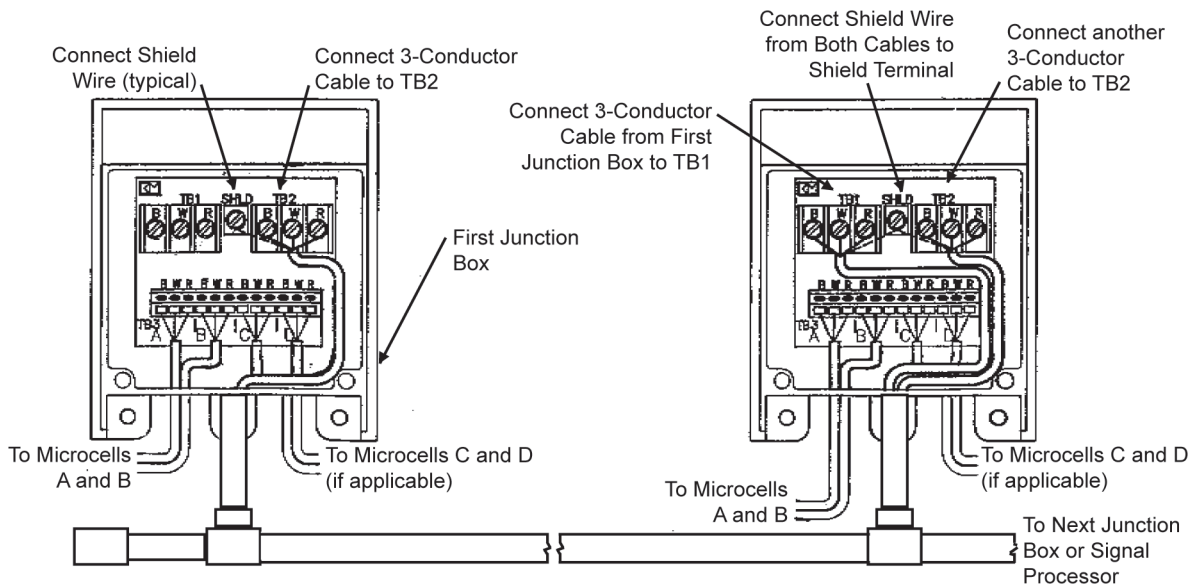
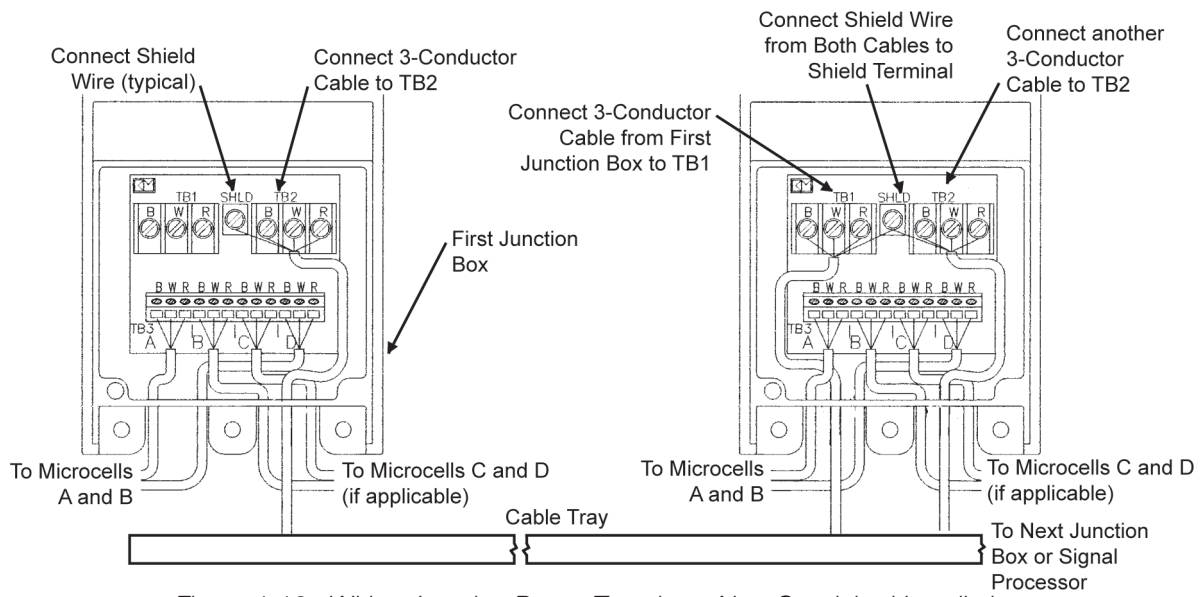

Figure 4-15. Wiring Junction Boxes Together - Conduited Installation.
Figure 4-16. Wiring Junction Boxes Together - Non-Conducted Installation.
2. See Figure 4-15 (for a conduited installation) or Figure 4-16 (for a non-conduited installation). Route the 3-conductor cable through the fitting into the junction box farthest from the signal processor. Connect wires from the cable to the TB3 terminal in the junction box; black wire to B terminal, white wire to W terminal, and red wire to R terminal. Connect the cable shield wire to the Shield terminal between TB1 and TB2.